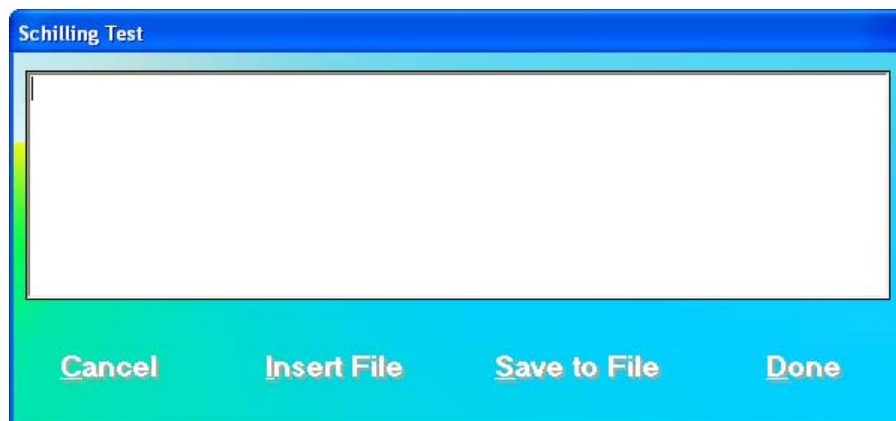

Figure 10-26
5. To add comments to the report, click the **Enter Comment** button or press *Alt+C*. The screen appears as shown in Figure 10-26.